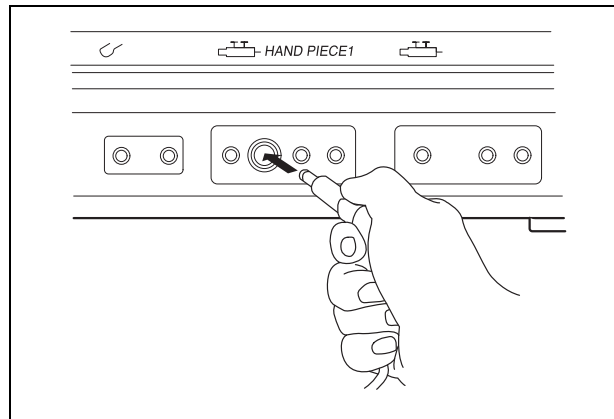

Figure 3.9
4. Connect the A cord's plug to the accessory being used with the fiberscope, videoscope or rigid endoscope. After confirming that the power switch of the UES-40 is set to OFF, insert the A adapter's plug into the active connector on the front panel of the UES-40 until it clicks into place (see Figure 3.9).